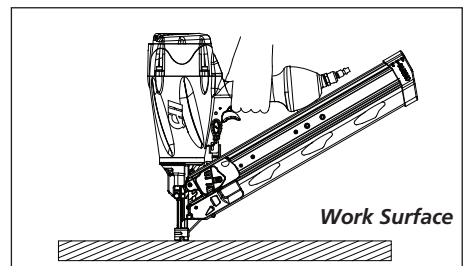

Figure 18
5. Depress the WCE against the work surface without pulling the trigger (See Figure 18). The nailer **MUST NOT OPERATE**. Do not use the tool if it operates without pulling the trigger. Personal injury may result.